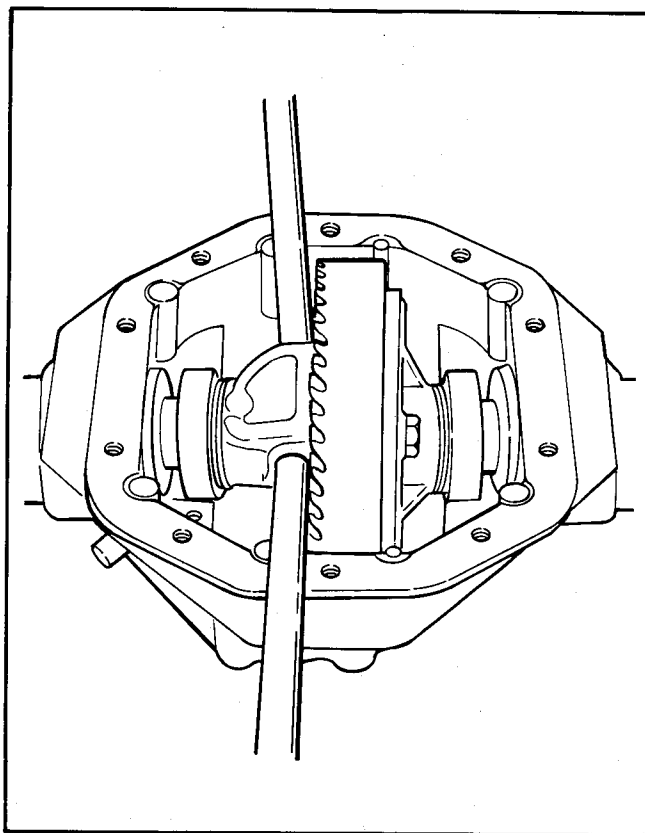

Figure 23 - Prying Out Case
- h. Pry differential case assembly from carrier with two pry bars, Figure 23.